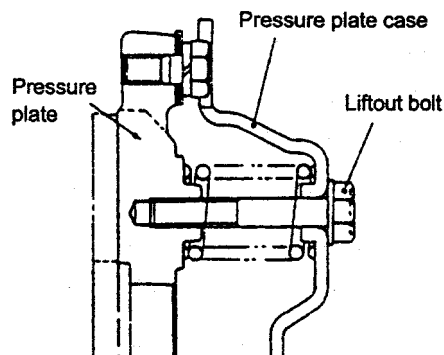

Fig2.2 Liftout bolt
- (1) Remove the clutch cover.
- (2) Press the clutch pedal and move out the pressure plate with liftout bolt. (See Fig 2.2)
- (3) Turn the slide bolt left to let the drive shaft go into the transmission.
- (4) Disassemble the stopped bolt of the clutch cover, remove the friction pieces.
- (5) Install the new friction pieces with the longer spline boss pointing toward the transmission.
- (6) The tighten torque of the slide bolt: 10.9-12.1kg.m.
- (7) Install the clutch housing on the flywheel.
- (8) Press the clutch pedal and remove the liftout bolt.
- (9) Check the free stroke of clutch pedal and adjust it if necessary. (Free stroke: 10mm)
- (10) The distance between the release lever and clutch bearing seat should be 3mm.